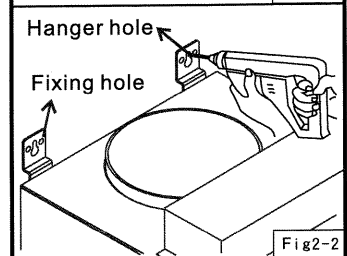

Fig2-2
4. Adjust hangers of both sides, hang machine onto screws and the fixing holes must be screwed on the wall. (Fig2-2)